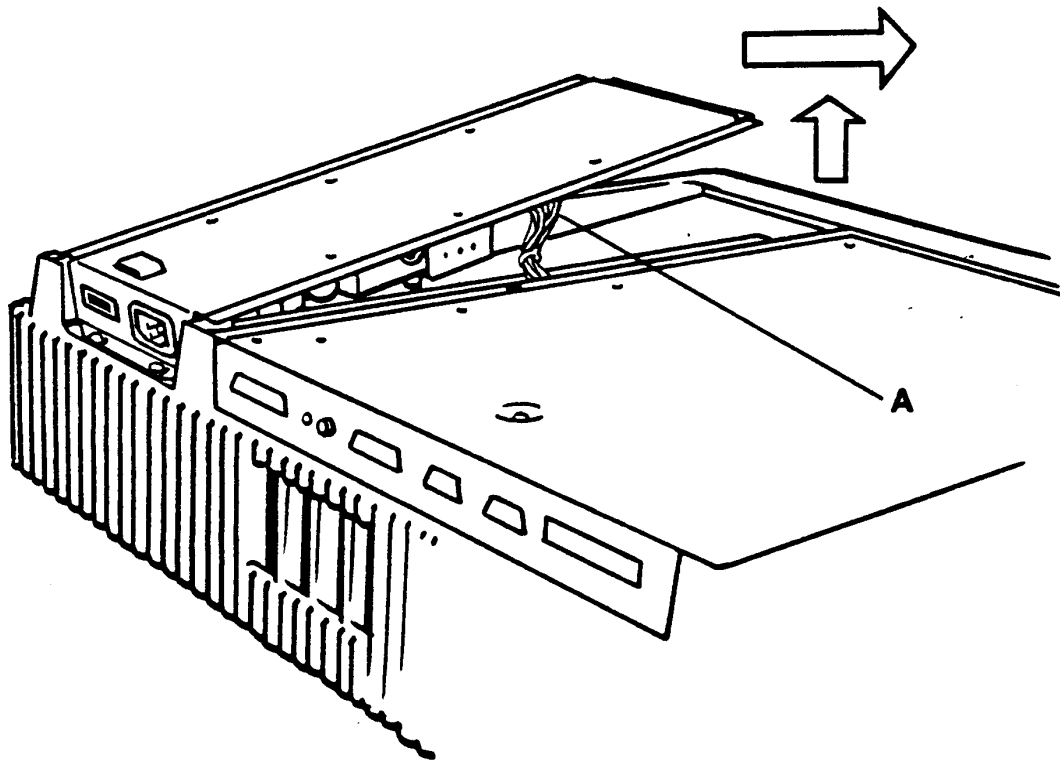

FIGURE 6.2
6. Lift up the front edge and slide the power supply forward until the rear edge clears the two rear mounting screws. Gently lift up the power supply assembly to gain access to the electrical connector. Refer to Figure 6.2.
7. Disconnect the power supply connector by pressing in the tabs while gently pulling. Refer to Figure 6.2 item A. If the leads are secured to the power supply by a wire tie, cut the tie. The power supply can now be removed.